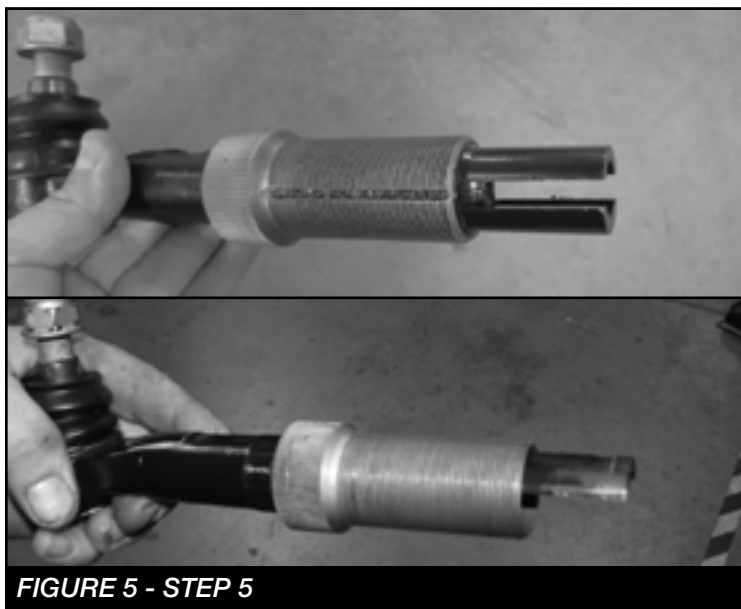

FIGURE 5 - STEP 5
5. Locate the factory drag link. Loosen the adjuster and remove the rod end with the collar. **NOTE: There are two variances depending of the year of the vehicle. SEE FIGURE 5**